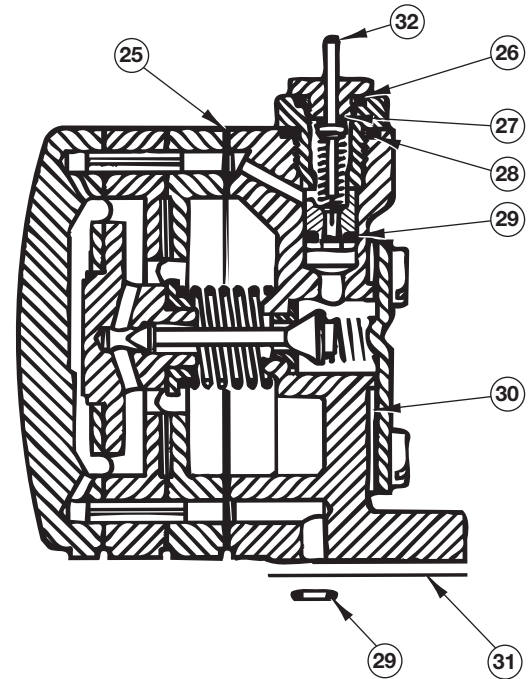

Figure 38
3.3.6.6 Gasket Kit for Relay Assembly 89-8501-014 @ 3–15 psig and 6–30 psig (See Figure 38)